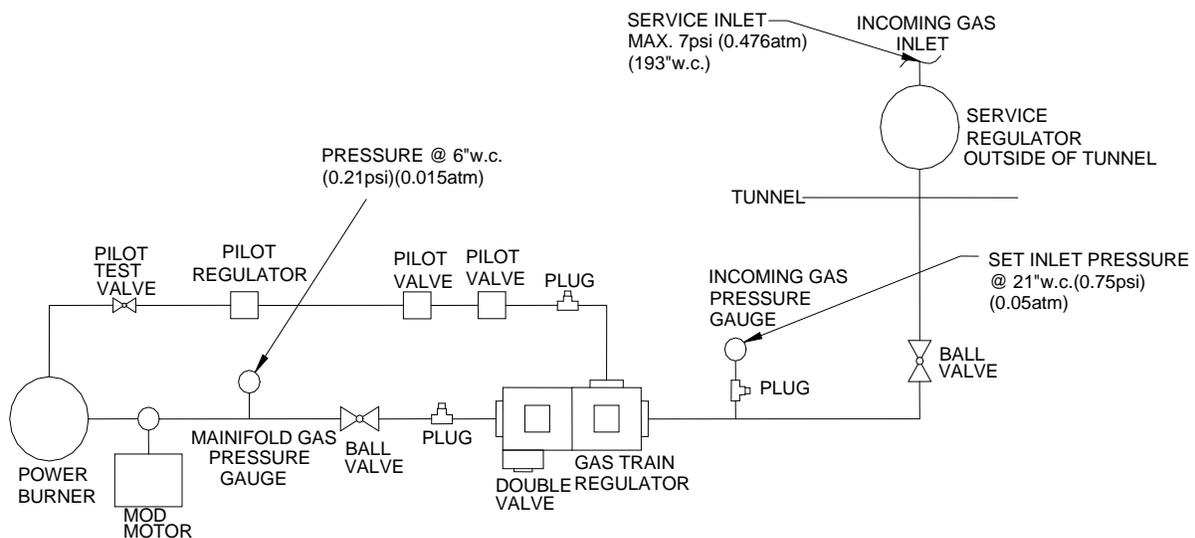

Figure 3 - Gas Plumbing Diagram
3. Screw regulator on with arrow on casting pointed **downward** (Figure 3).